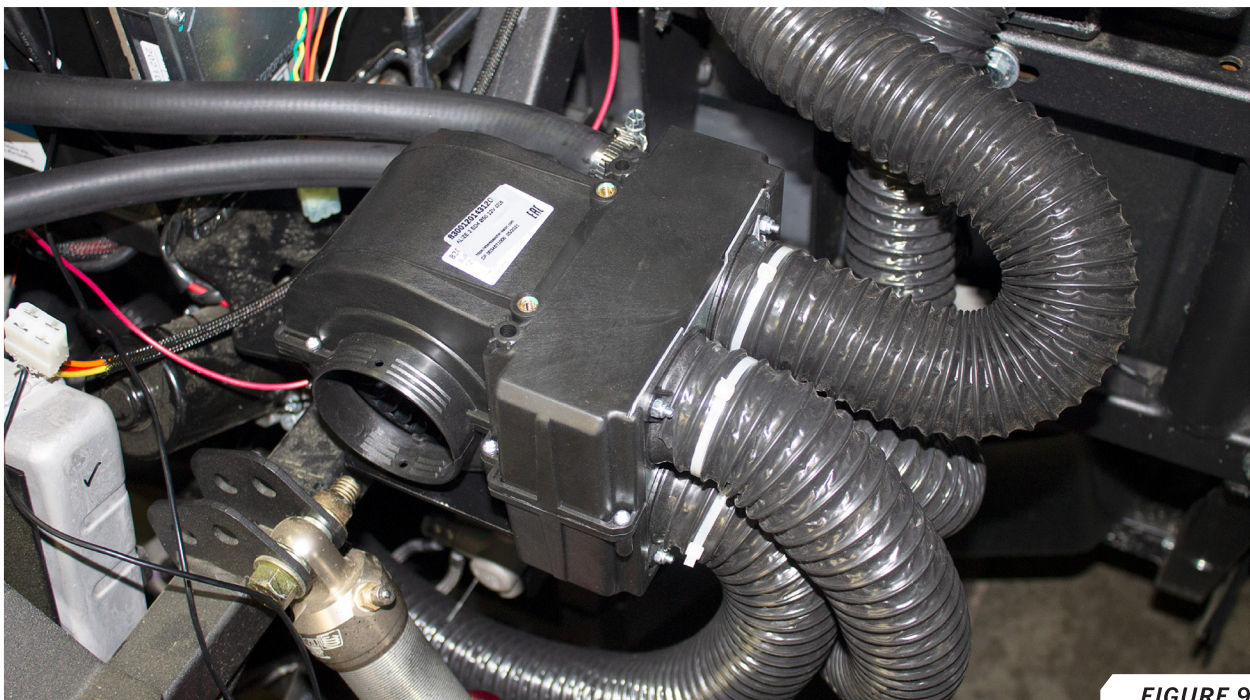

FIGURE 9
21. Attach the heater unit to the bracket using the provided M6 hex head bolts. **FIGURE 9**